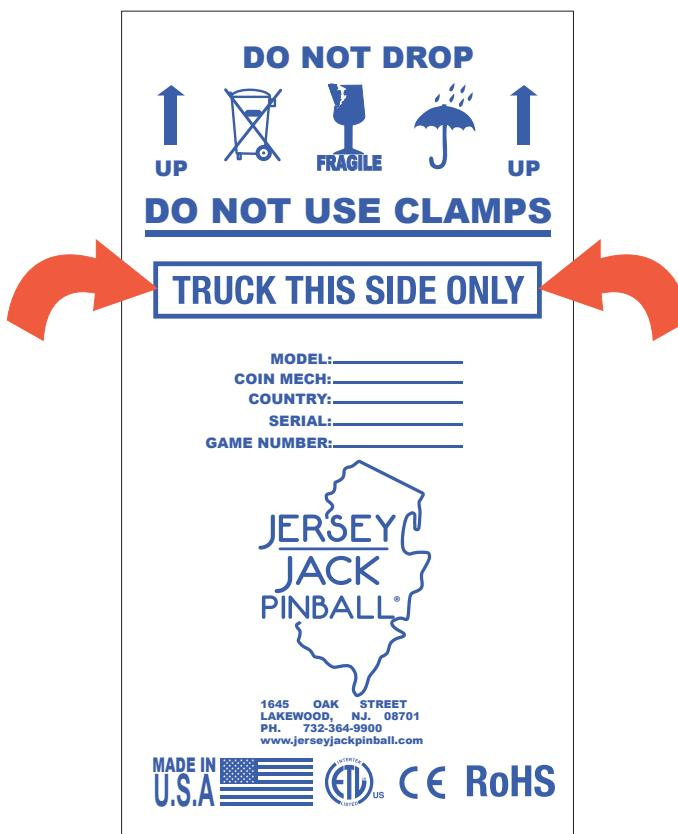
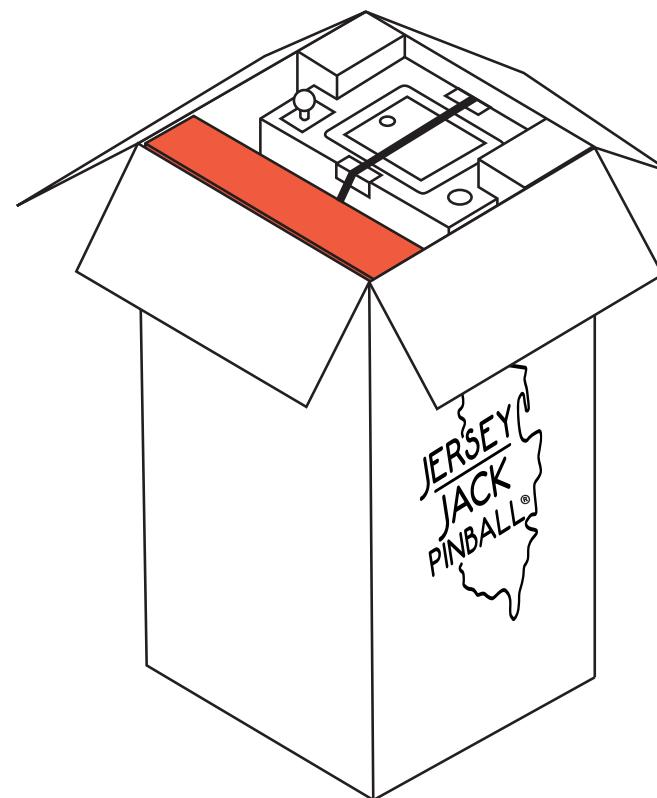

Figure A1. The “TRUCK THIS SIDE ONLY” side of the box.
Figure A2. Opening the shipping carton.
1) Using wire cutters, remove all shipping bands from the outside of the carton, noting the side with the “TRUCK THIS SIDE ONLY” marking (see figure A1). With a utility knife and needle-nose pliers, carefully cut the tape and remove all staples along the seams of the carton’s top flaps, then fold them open (see figure A2). Remove the large, flat sheet of cardboard. Pull out the loose parts box (red in figure A2) and remove its contents. Check all loose parts against the packing list on this page.